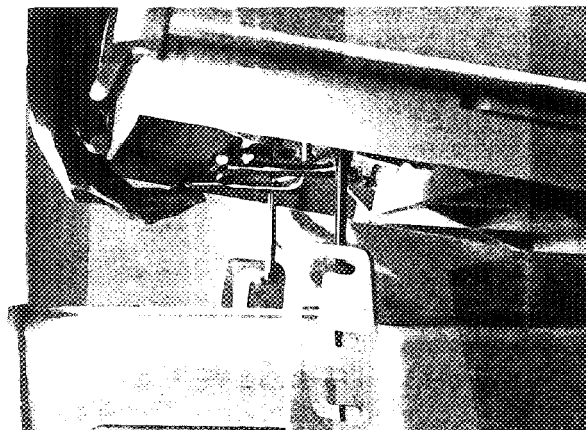

FIGURE 4.4 BASSINET TILT CONTROL
1. **CHECK THE MATTRESS TILT CONTROL** (Figure 4.4) by pulling up on the lever located at the bottom rear of the Bassinet while supporting the rear lower edge of the Bassinet with
1. Connect the Patient Circuit to the **Patient Outlet** (refer to Figure 4.4).